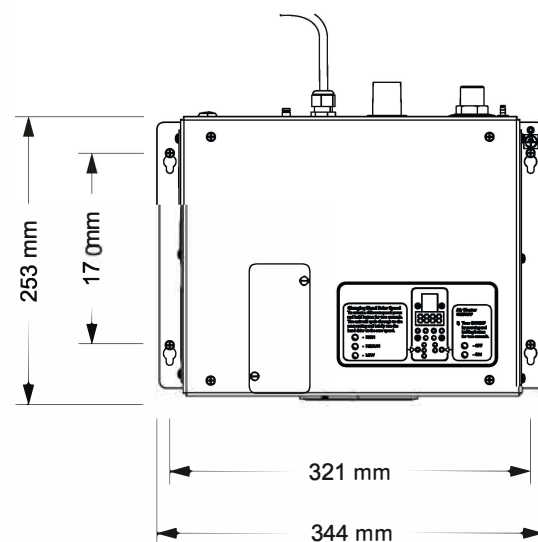

Fig 8
2. Fasten to the wall using mounting hardware suitable for the wall material (to be provided by others). The wall must be robust enough to support the weight of the module. See figure 8.